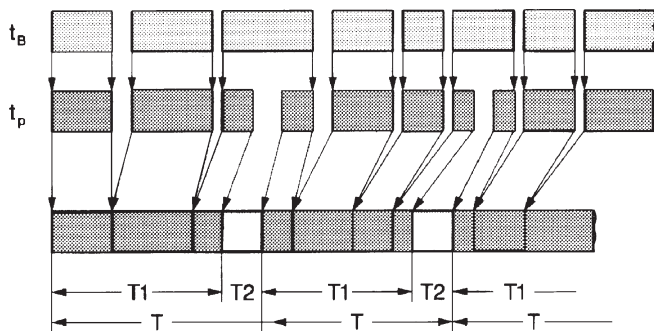

Fig. 7 - Time sequence diagram
- The printed circuit board automatically controls the sequence of the pause and operating times of the 203 central lubrication pump as a function of the vehicle or machine working hours t_B (Fig. 7).
- A lubrication cycle consists of one pause time and one operating time. Once the pause time has elapsed, the operating time starts to run. This lubrication cycle is repeated permanently after the machine or vehicle has been put into operation. Refer to Fig. 7.